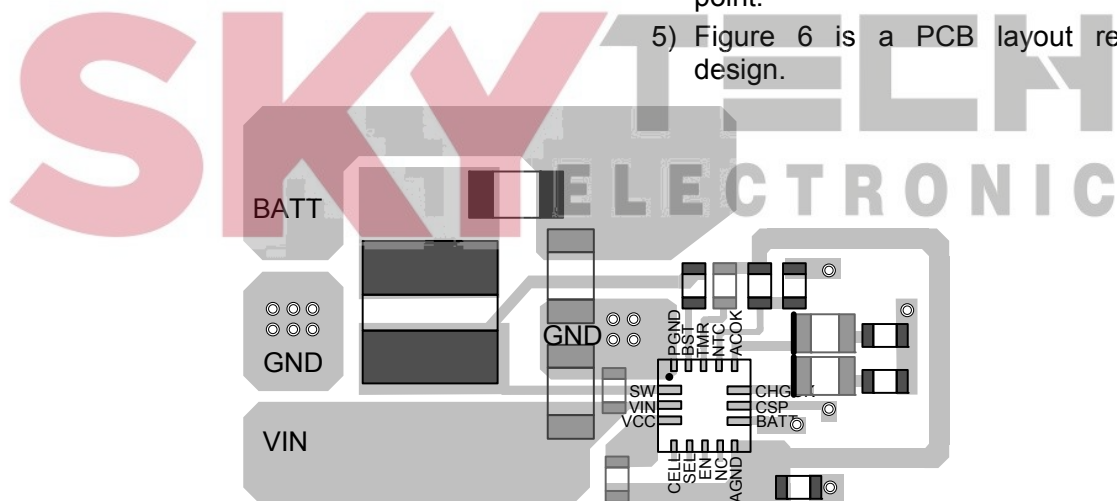

Figure 6: MP2615 PCB Guild Design
- 5) Figure 6 is a PCB layout reference design.